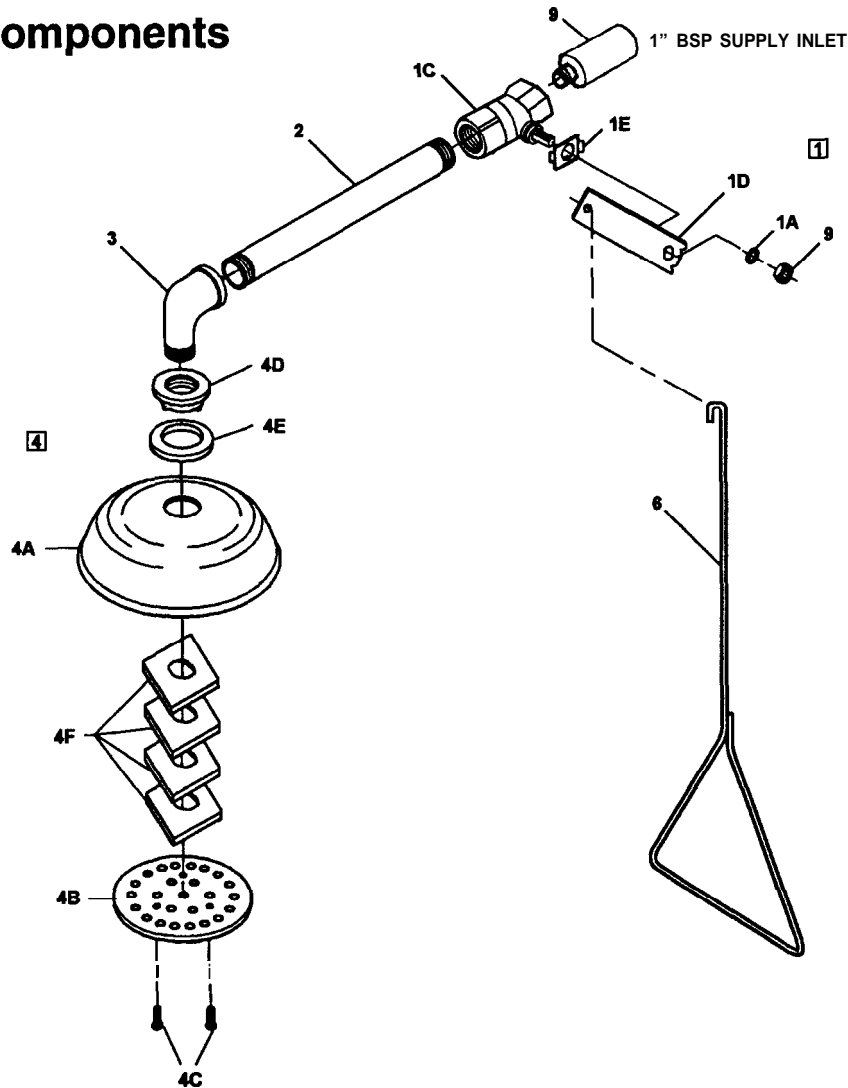

Figure 2
Separate all parts from packaging and check each part with Figure 2 and the Parts List on page 4. Make sure all parts are accounted for before discarding any packaging material. If any parts are missing, do not attempt to install your Bradley Drench Shower until you obtain the missing parts.
1. Assemble drench shower components as shown in Figure 2 on page 4.